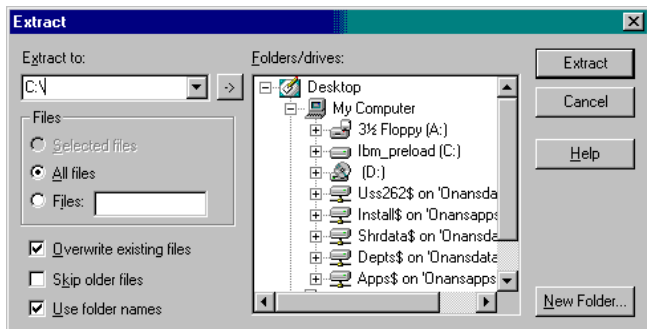

FIGURE 4-20. WINZIP EXTRACT DIALOG BOX
- a. Locate the site backup file (**sitename.zip**) using Windows Explorer. Double click on the file to launch the **WinZip** utility (see Figure 4-20).